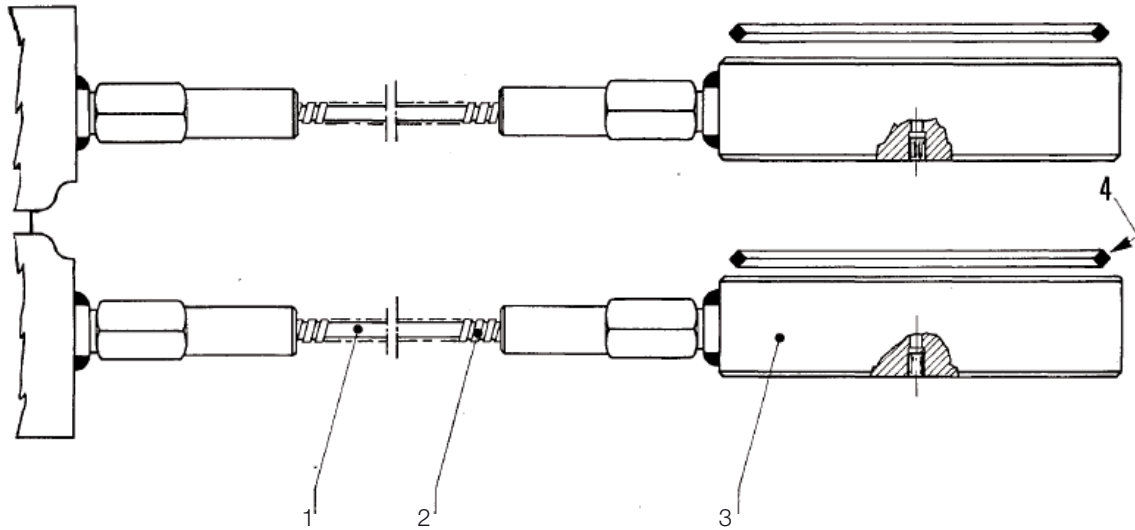

Fig. 3 - Secondary measuring element
- THE SECONDARY MEASURING ELEMENT (see fig. 3) consists of two diaphragm seals (3) fitted respectively to the positive and negative sides; the seals are connected by two capillary tubes (1), made of AISI 316 ss and protected by the relevant sheath (2).